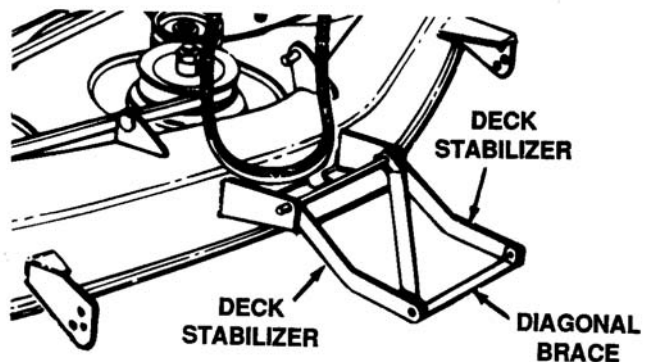

Figure 8-23. Deck Stabilizers and Diagonal Brace
3. The two deck stabilizers and the diagonal brace which are attached to the front of the deck are folded back over the deck for shipping purposes. Unfold them at this time. See Figure 8-23.